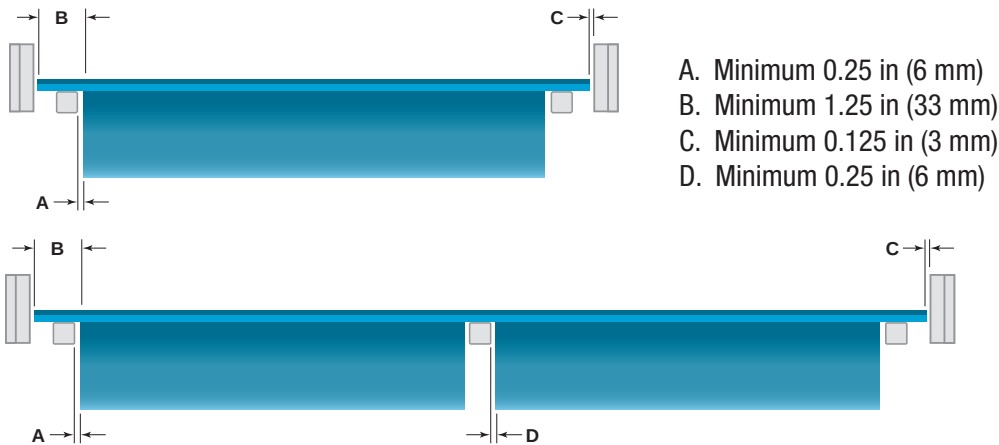

Figure 35
- Order belts with a minimum 1.25 in (33 mm) flight or sidewall indent (Figure 35, B).
- ◊ Design support rails and other components with adequate clearance from flight and sidewall edges (Figure 35).
- Design containment components with a minimum 0.125 in (3 mm) clearance from the belt edge (Figure 35, C). See “Belt Containment” on page 45.